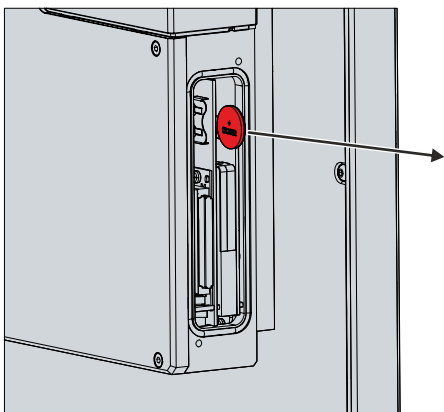

Fig. 16: Replacing the battery
2. Insert the new battery into the PC by hand. Pay attention to the correct polarity. The positive pole must point to the rear of the PC, the negative pole to the display (see Fig. 16).